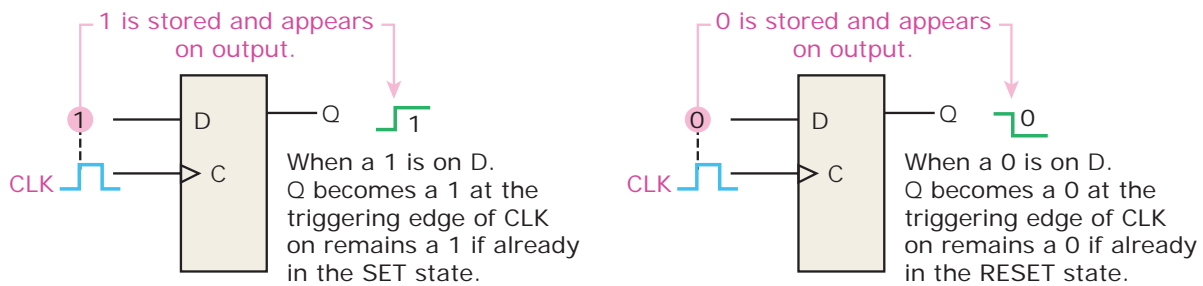

FIGURE 1.46 The flip-flop as a storage element.
1.49 illustrates the concept of storing a 1 or a 0 in a D flip-flop. A 1 is applied to the data input as shown, and a clock pulse is applied that stores the 1 by setting the flip-flop. When the 1 on the input is removed, the flip-flop remains in the SET state, thereby storing the 1. A similar procedure applies to the storage of a 0 by resetting the flip-flop, as illustrated in Figure 1.46.